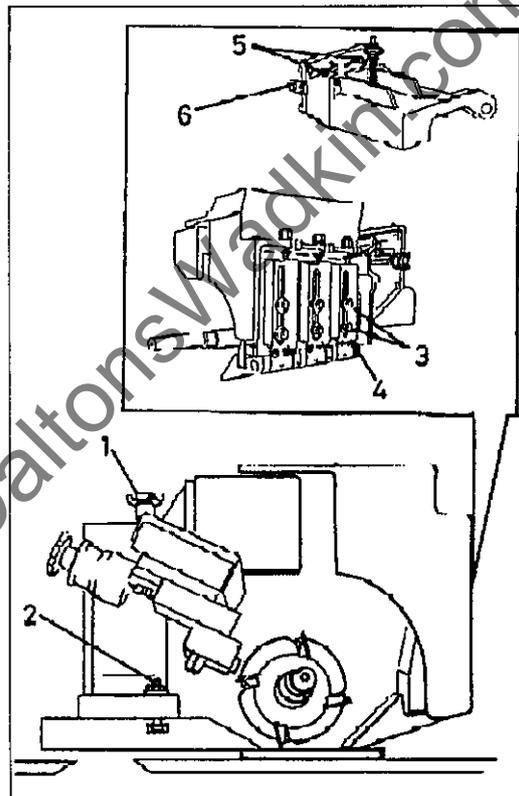

Figure 8.8.2
8.8.2 Top Head Pad Pressure and Chipbreaker (Figure 8.8.2)